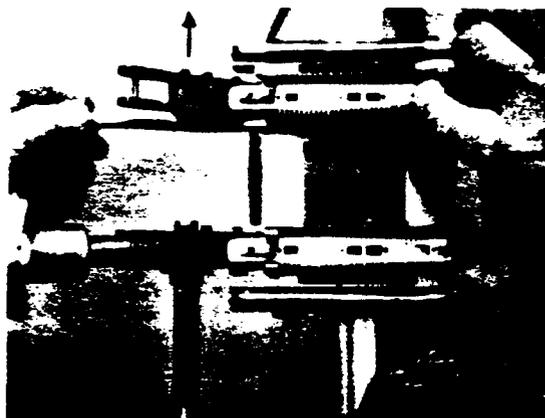

FIG. 32 EXTENDING THE COMBS (PAR. 4.322)
4.323 Extend the upper comb. Release the movable comb latch knob on left or hinge side of the R-4861 tool. Gently restrain the comb while it is moving to the full open position (approx 4 inches). It is important that this be done, to prepare the tool for subsequent operations. See Fig. 32.